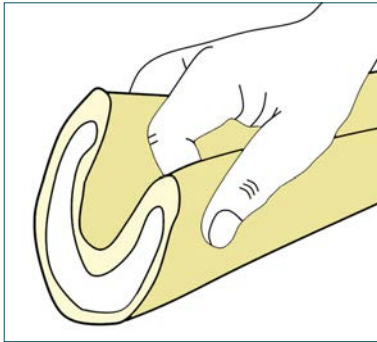

Fig. 1 – Folding Jointspan FR into “U” shape.
- Where 3 axis movement and/or seismic shock are considerations then CP201 should be installed using a 'W' form. (See Fig. 1 & 5)